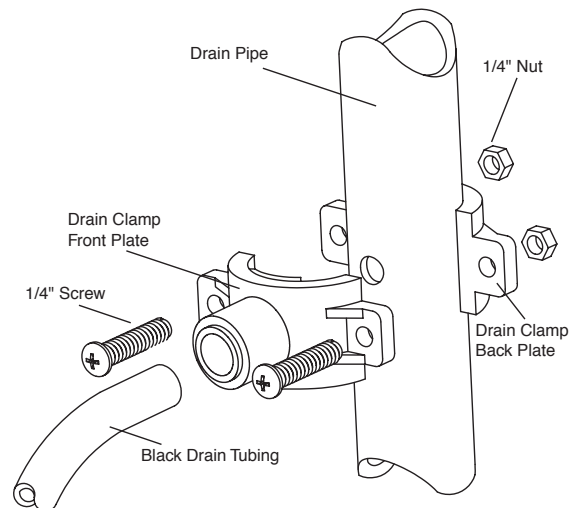

Figure 4
•Refer to Fig. 4. Insert the tubing into the Drain Clamp. Make sure the tubing is pressed all the way in to create a pressure-tight connection.